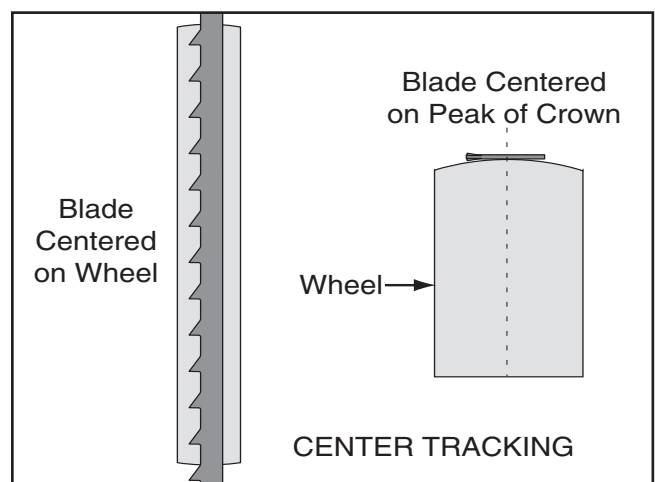

Figure 19. Center tracking profiles.
4. Spin the upper wheel by hand at least three times and watch how the blade rides on the crown of the wheel. Refer to **Figure 19** for an illustration of this concept.